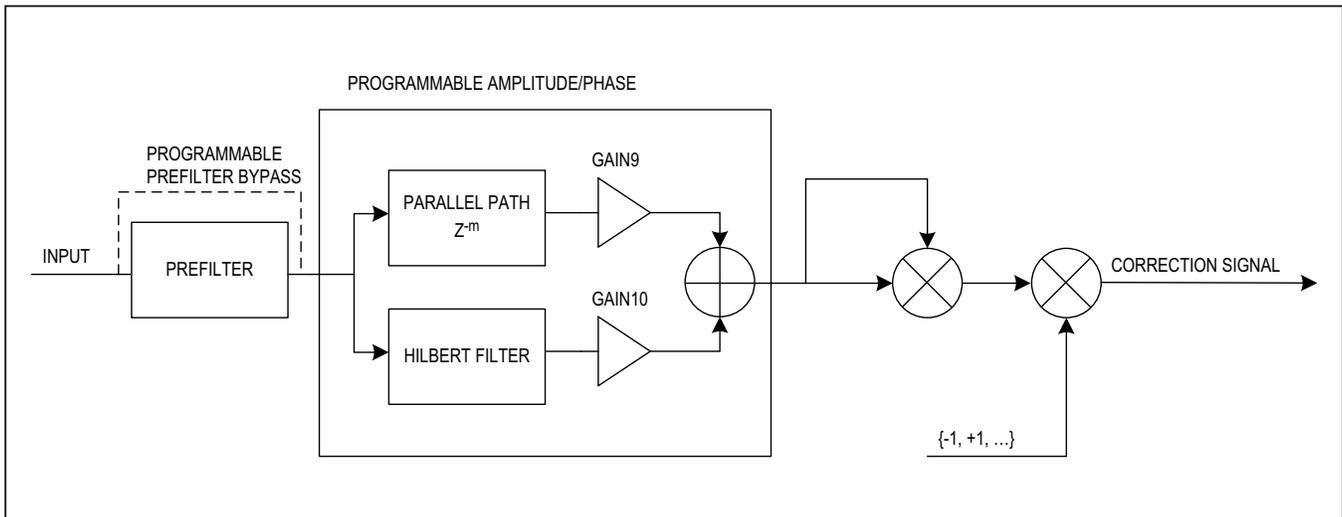

Figure 24.  $f_{DAC}/2 - 2f_{OUT}$  DAC DPD
- $f_{DAC/2} - 2f_{OUT}$  DPD: This block allows for the correction of  $f_{DAC/2} - 2f_{OUT}$  spur. The block diagram of this section is shown in Figure 24.
The  $f_{DAC}/2 - 2f_{OUT}$  DPD block (Figure 24) includes a bypassable pre-filter with a nonlinear phase response that approximates the characteristics of the MAX5861’s RF